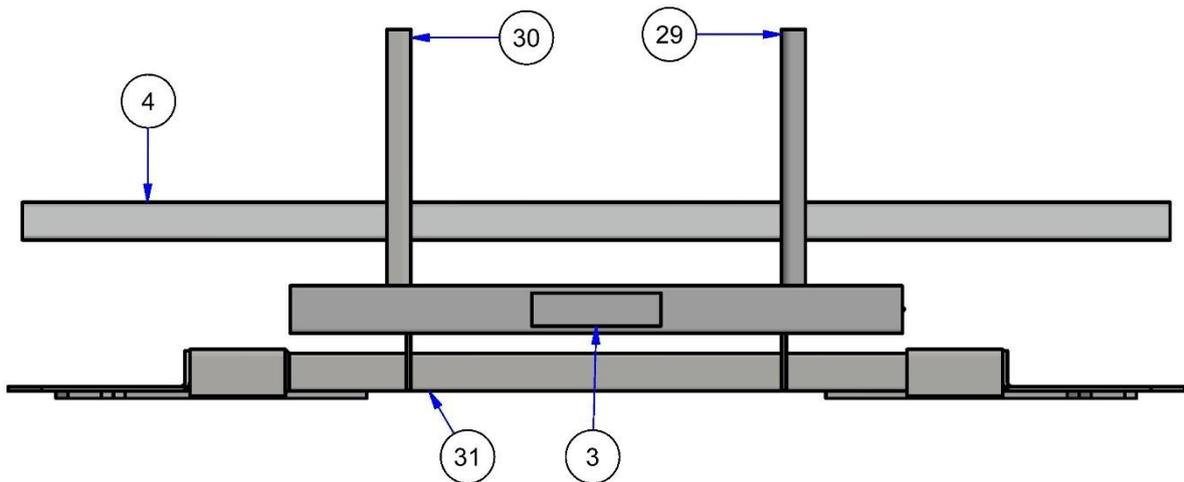

Figure 14 (Front View - Frame Assembly)
2. Position the centre underrun bar (Item 3) and the rear wheel support (Item 4) into the remaining two slots and centralise them as shown in Figures 14 and 15